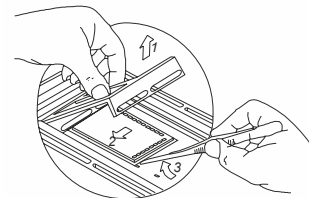

Fig. 5
8. *When electrophoresis is completed, take the gel out using the forceps \*(Fig. 5) and the needle*